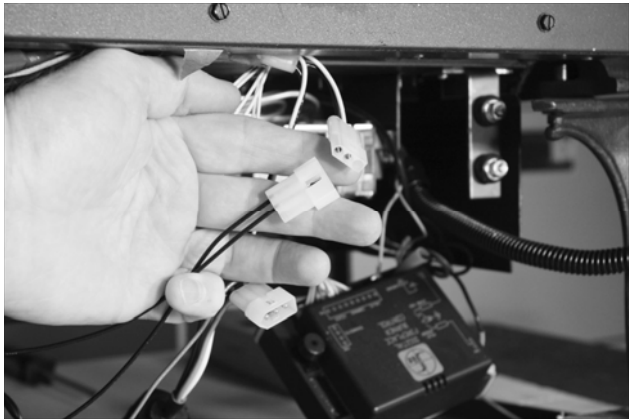

Figure 8
9. Place the fan assembly at the back of the stove with the motor positioned to your left. Firmly press the two connectors on the fan wiring harness marked “Blower” onto the tabs on the fan motor. Orientation does not matter. Connect the white plastic 2-wire connector on the fan wiring harness to the corresponding 2-wire connector on the stove wiring harness. See Figure 8.